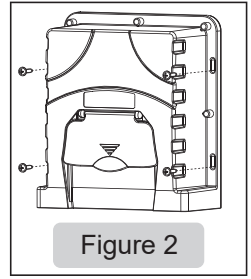

Figure 2
- 2) Find an appropriate location for the placement of the control unit. The control unit can be installed **vertically (recommended)** as shown in **Figure 2** or laid flat. Its water inlet on the bottom should be higher than the maximum possible water level of the water reservoir but no more than 2 meters higher than the minimum water level of the water reservoir (referring to **Figure 1: Recommended system installation schematic**). The location should be able to avoid the control unit getting dipped into water when raining.